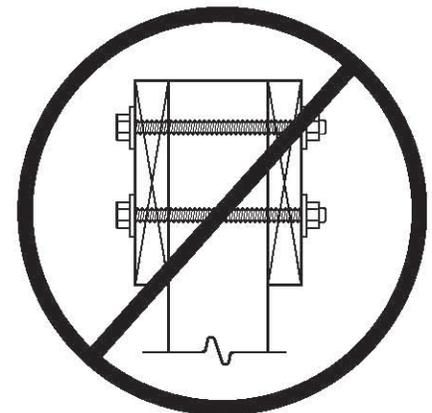
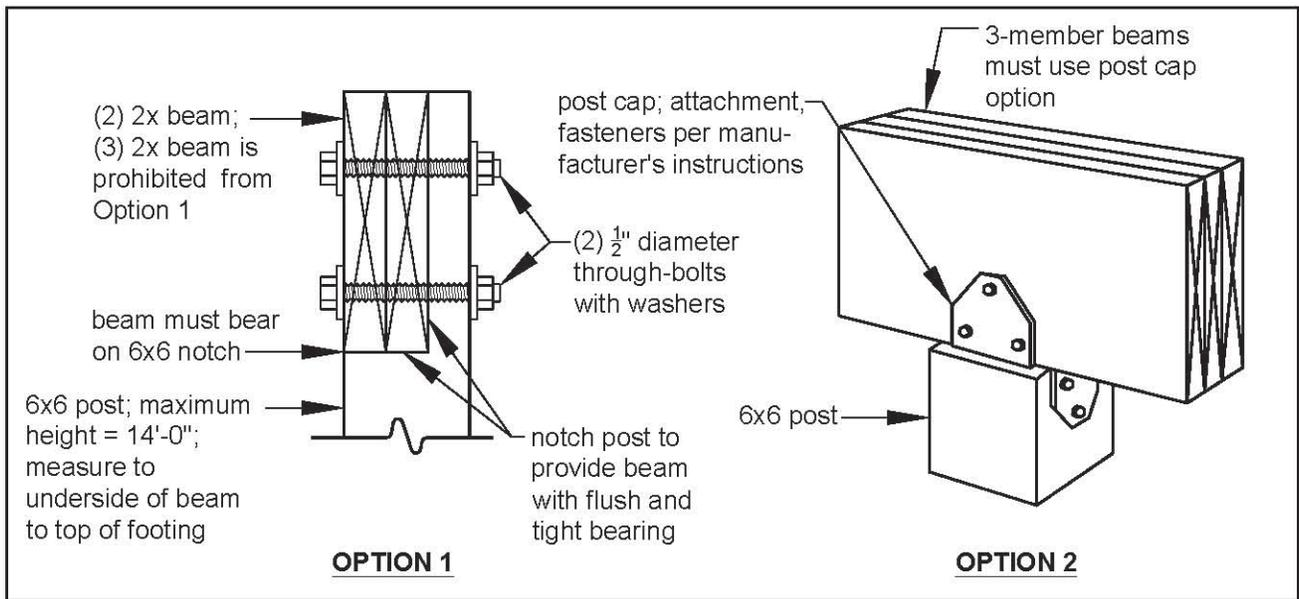

FIGURE 9: PROHIBITED POST-TO-BEAM ATTACHMENT CONDITION
FIGURE 10: POST-TO-BEAM CONNECTION OPTIONS
All deck posts shall be 6x6 with a maximum height of 14'-0" measured from the top of the footing to the underside of the beam. The beam shall be attached to the post by one of the two methods shown in FIGURE 10. Attachment of the beam to the side of the post without notching is prohibited; see FIGURE 9
The post cap shown in FIGURE 10, Option 2, shall be specifically designed for (2) 2x or (3) 2x beams and 6x6 posts with a minimum downward allowable load capacity of 5,000 lbs. Attachment shall be per manufacturer's instructions. Post caps shall be galvanized per the requirements on Sheet 2.